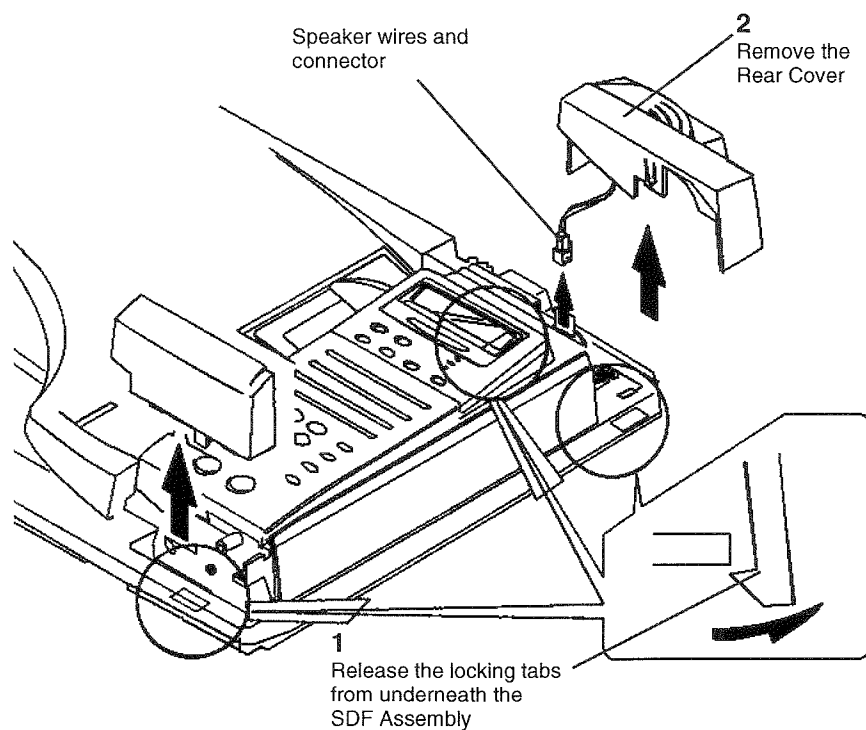

Figure 1 Removing the Rear Cover
1. (Figure 1) Remove the Rear Cover.